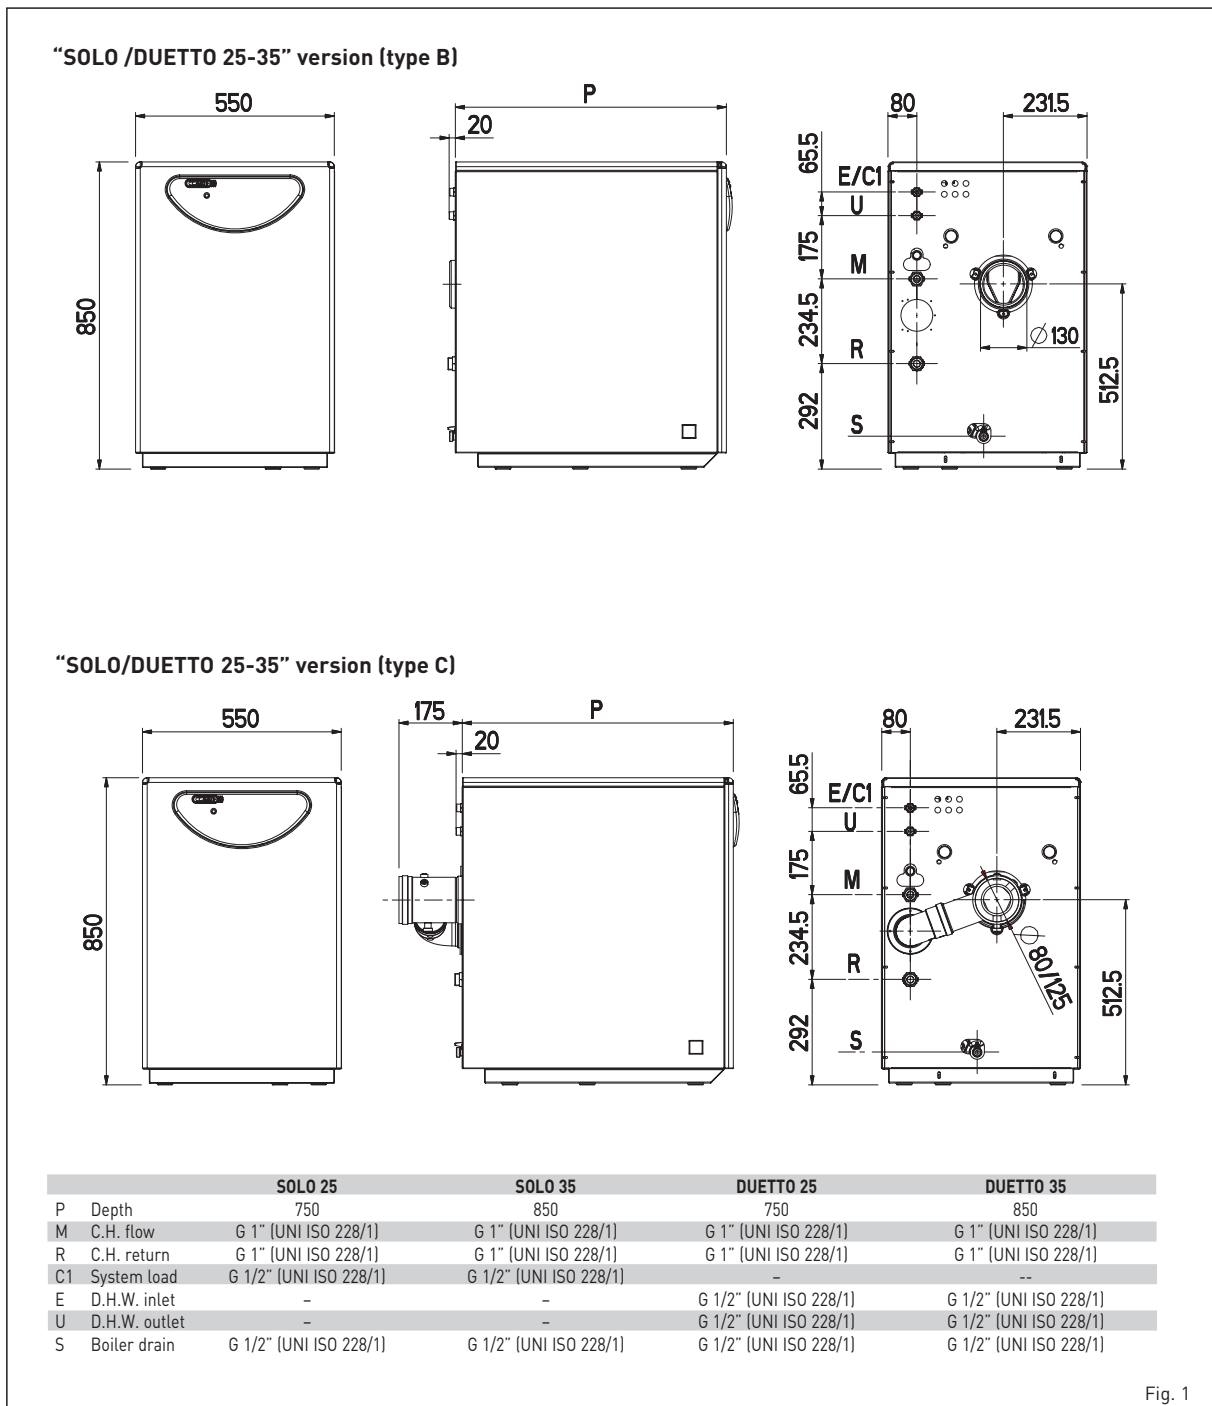

Fig. 1
1.2 DIMENSIONS (fig. 1)
Before proceeding to connect up the boiler, you are recommended to make the water circulate in the piping in order to eliminate any foreign bodies that might be detrimental to the operating efficiency of the appliance. For connecting up the pipes, make sure to follow the indications illustrated in fig. 1. The connections should be easy to disconnect using pipe unions with orientable connections.